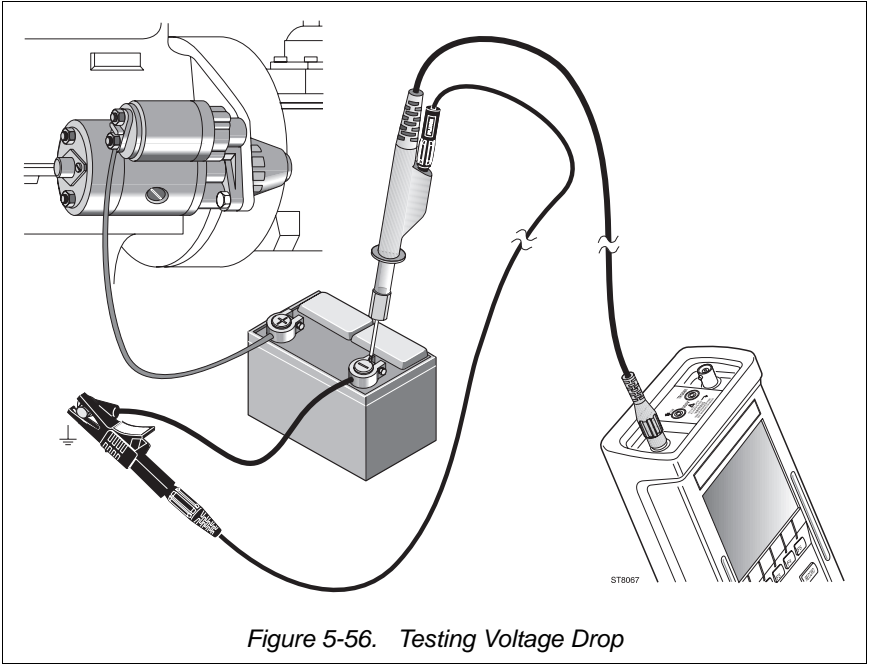

Figure 5-56. Testing Voltage Drop
- ①
- ②   SELECT
- ③   SELECT
- ④ Connect the test leads as displayed by the test tool's Connection Help and shown in Figure 5-56.
- ⑤  Starts the Voltage Drop test.